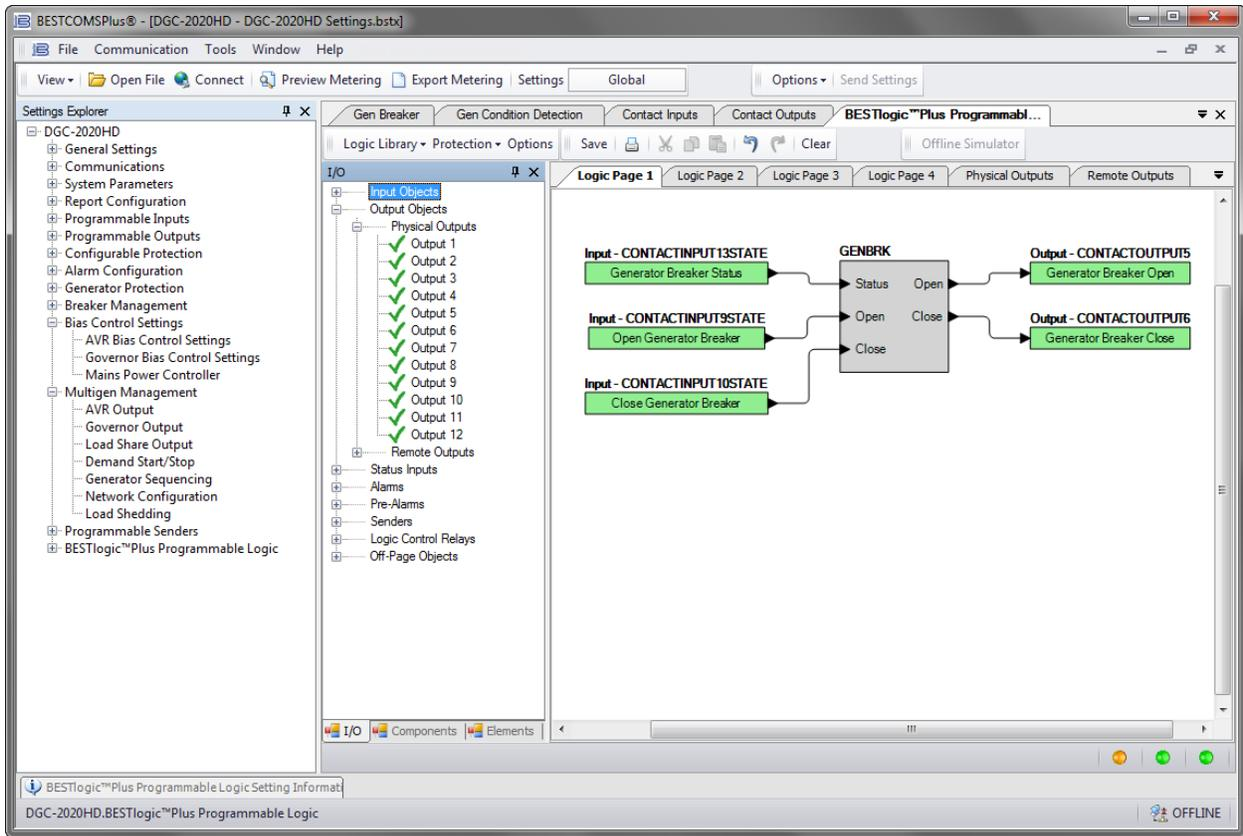

Figure 13-11. Synchronizer Setup in BESTLogicPlus Step 26
26. Click on the I/O tab and drag the inputs assigned in step 3, into the main logic screen. Connect them to the appropriate inputs of the GENBRK block. Drag the outputs assigned in step 4 into the main logic screen and connect them to the appropriate outputs of the GENBRK block. See Figure 13-11.